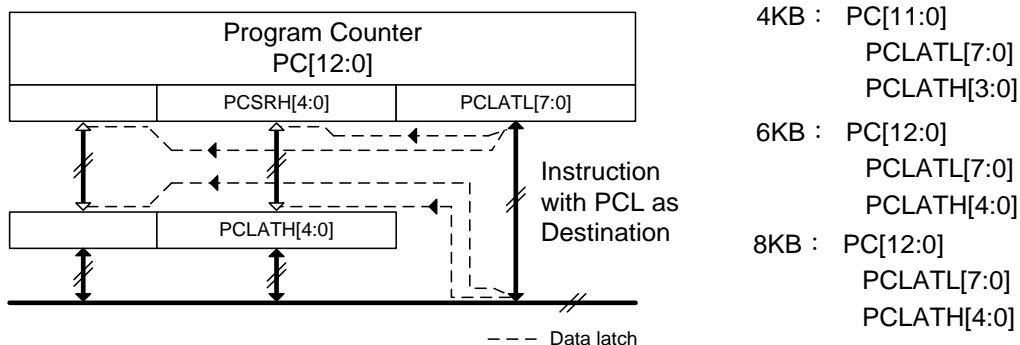

Figure 2-2 Program Counter Frame
Program Counter (PC) includes shift register PCSRH and buffer register PCLATL, as Figure 2-2 implicated.